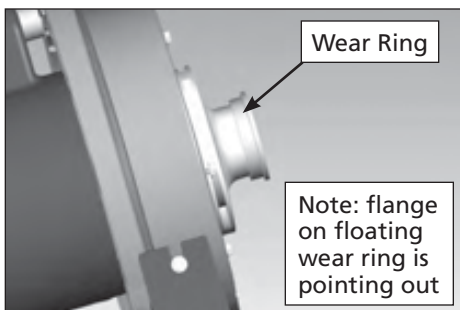

Figure 9
4. Install floating wear ring on impeller. Be careful to install with flange pointing out (see Figure 9).